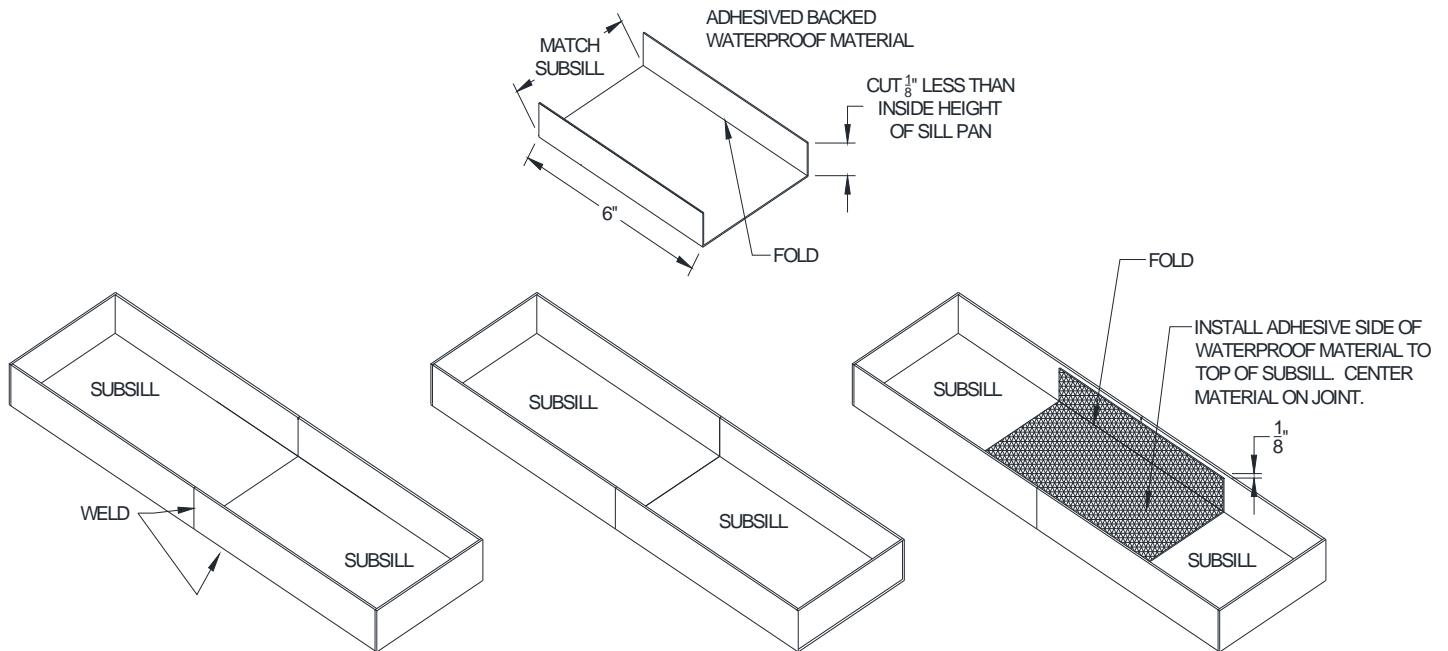

Figure A1:
3. Cut a piece of adhesive backed waterproof material to fit the joint as specified in Figure A1.